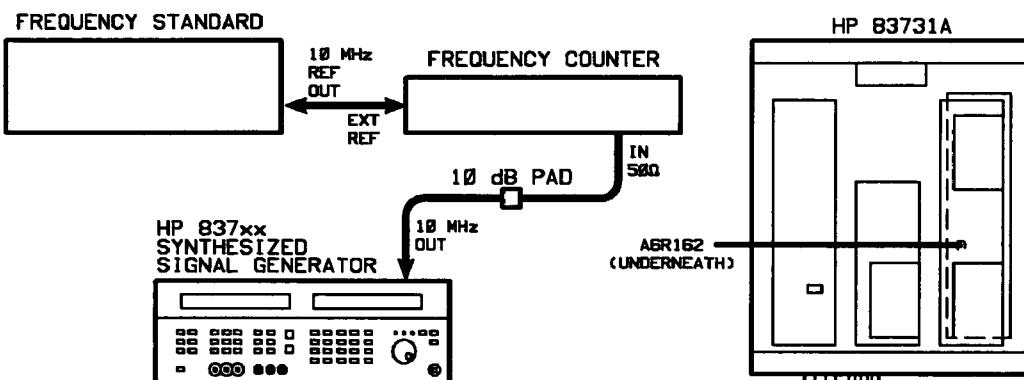

Figure 6-3. Low Stability Timebase Equipment Setup
1. Connect the equipment as shown in Figure 6-3.